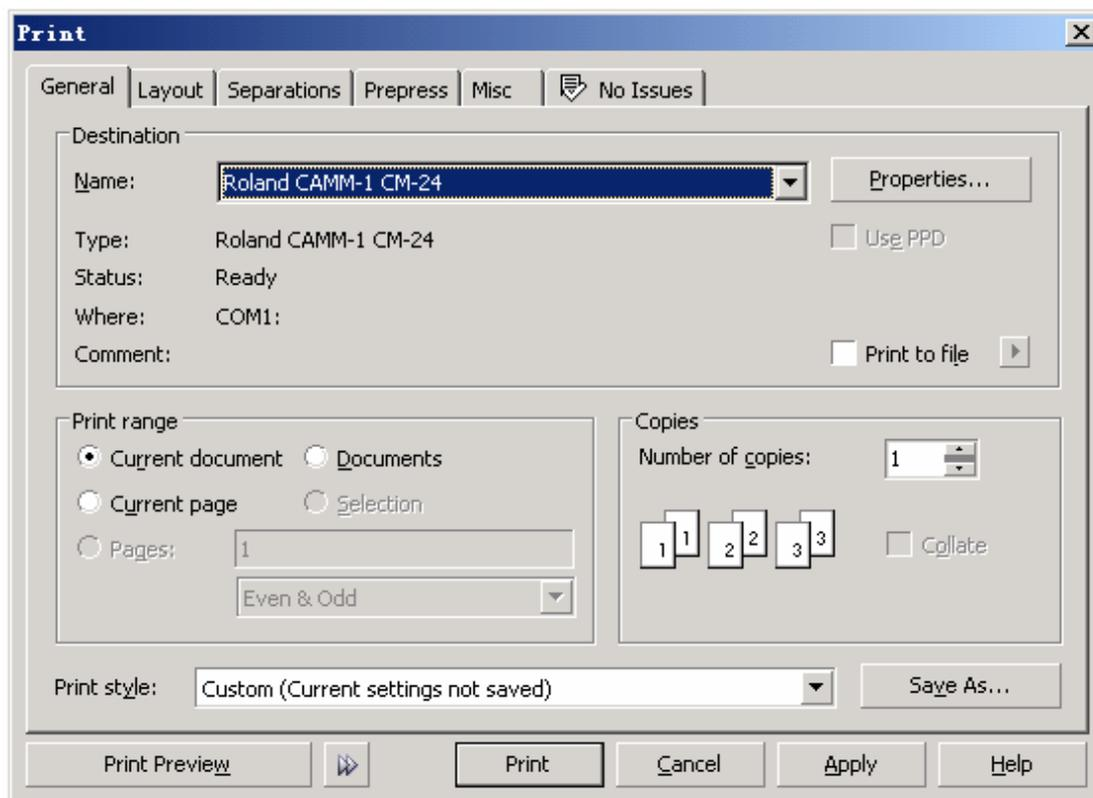

Figure 11
Step 7: Click Print button on CORALDRAW, shown the dialogue as Figure 11:
In the dialogue of Figure 11, please select the printer name on Name option. **Note that printer name must be right select. If you choose a wrong printer, it will also cause file have been sent but the cutter has no response.** Otherwise, there's COM selection on Where option. **Please confirm again if the COM number is correspond with the port marked down in Step 2.**